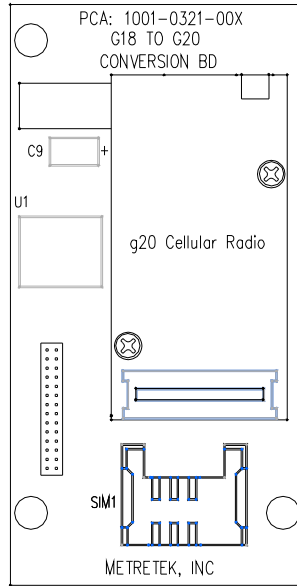

Figure 1-2
- Metretek 1001-0321-002 adapter assembly as shown in Figure 1-2.